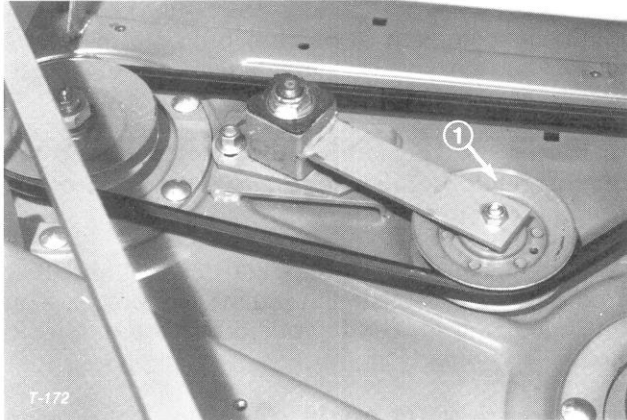

Figure 40
3. Loosen two nuts securing idler plate so tension of the idler pulley against the belt is released (Fig. 40).